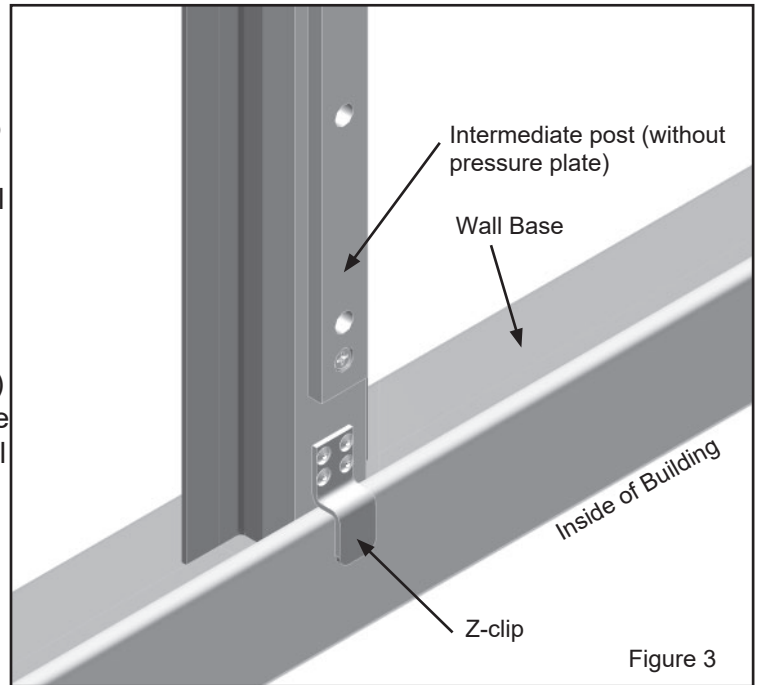

Figure 3
5. At about 48” away from the side U-Channel, position the first intermediate post on the wall base so that the “Z” clip on the bottom of the post engages the back lip of the wall base. See Figure 3. Rotate the post to a plumb position while engaging the “U” portion of the fork with the purlin above. Slide the adapter fork up until the bottom of the “U” portion of the fork contacts the bottom of the purlin. Snuggly tighten the bolts that fasten the fork to the post. Note: These bolts and the setscrew in the fork must be securely tightened once the wall panels are in position.